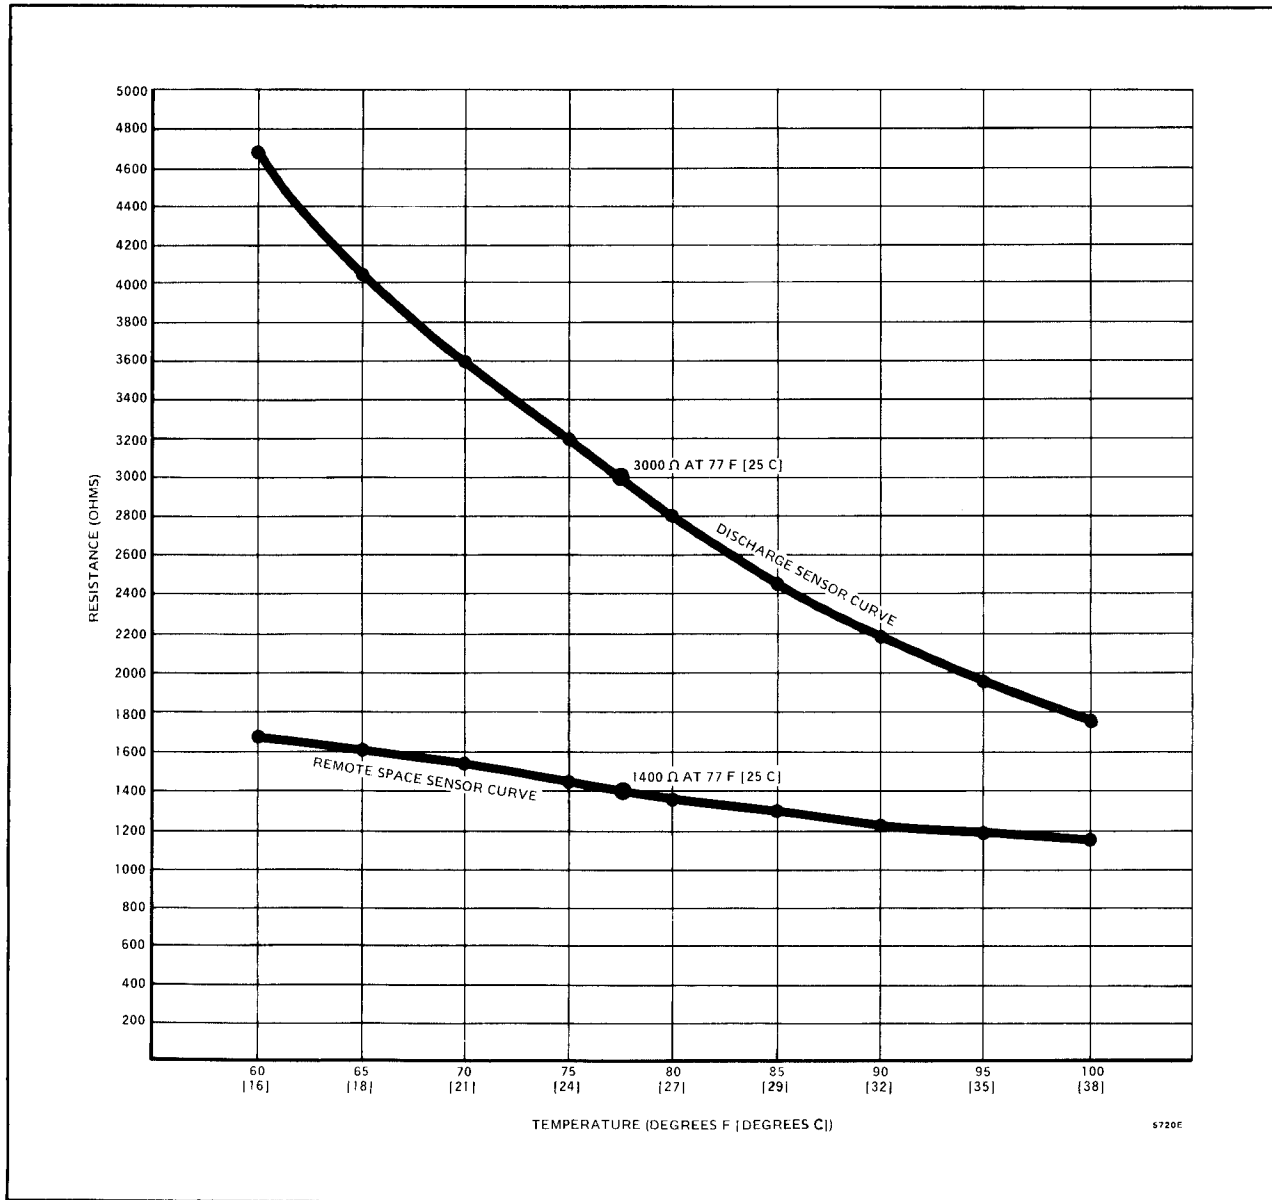

FIG. 14—RESISTANCE RANGE OF THE DISCHARGE AND REMOTE SPACE SENSORS
4. Meter reading depends on the temperature at the sensor. Discharge sensor resistance should be between 1500 to 4500 ohms. For resistance readings at different temperatures, see Fig. 14.